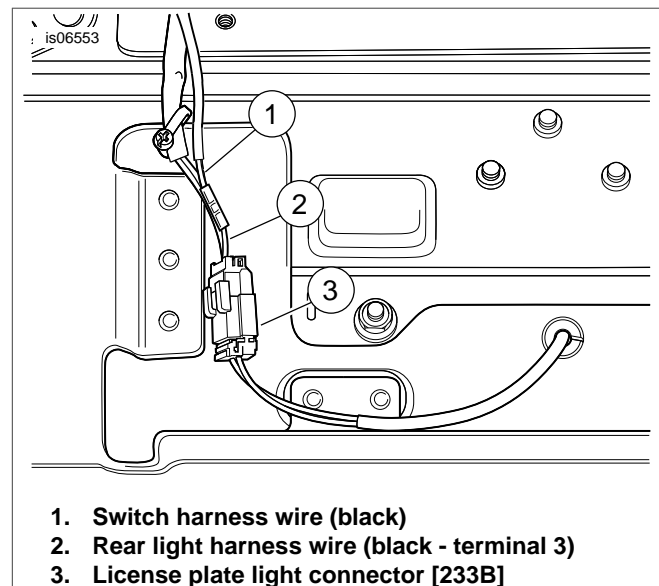

Figure 5. License Light Connector (2009 Models)
- f. See Figure 5. Disconnect the license plate connector [233B] (3) from the rear lighting harness connector [233A].